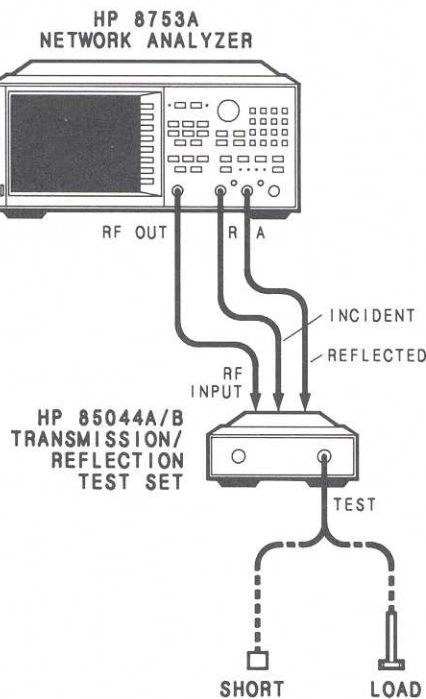

Figure 4-1. Directivity Test Setup.
1. Connect the equipment as shown in Figure 4-1 and turn on the HP 8753A. Allow 30 minutes for warm-up.
6. On the HP 8753A press **[SHORT]** for the network analyzer to measure the calibration standard. If the test set is an HP 85044B, press **[SHORT (F)]**.